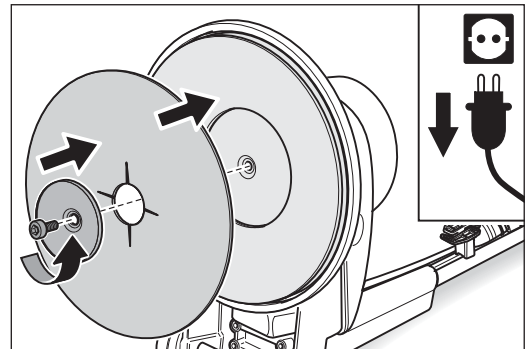

Fig. 19 Place the new sanding disc in the sanding plate and screw it in place. Turn the screw **anti-clockwise** to tighten (LEFT-HANDED THREAD)!
- 7 Place a new sanding disc on the sanding plate and push the fastening screw with paper retaining disc into the sanding plate (Fig. 19).
- 8 Use the hexagonal socket wrench to turn the fastening screw **anti-clockwise** into the sanding plate (LEFT-HANDED THREAD)! Please ensure that the sanding disc is attached to the sanding plate as centrally as possible (Fig. 19).